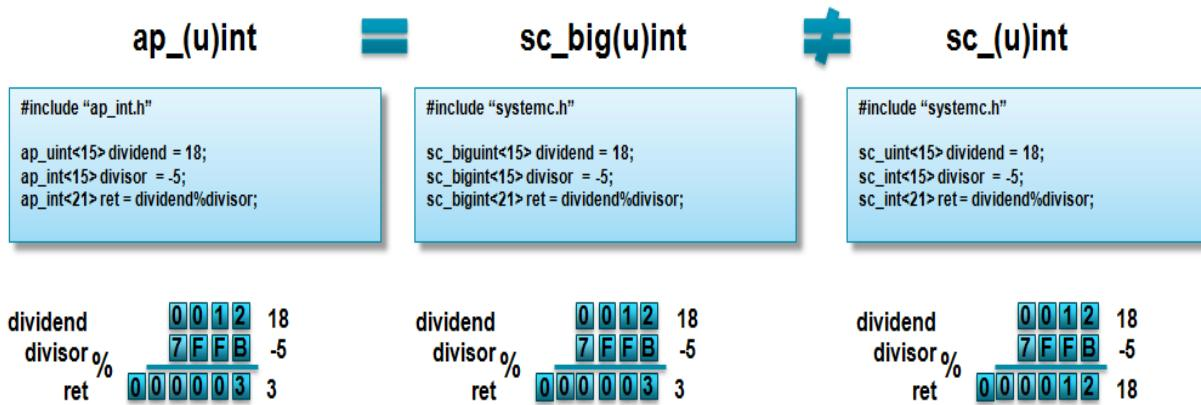

Figure 3-12: Integer Modules Differences
- As with the division operator above, when using the modulus operator Vivado HLS types are consistent with sc_big[u]int types but behave differently than sc_[u]int types. Figure 3-12 shows an example of this behavior.